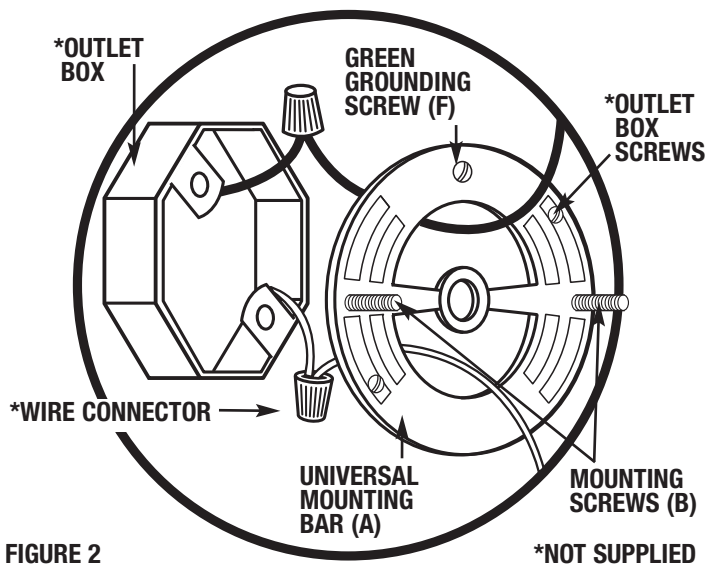

FIGURE 2
GROUNDING INSTRUCTIONS: The green grounding screw (F) is to be inserted into the hole with two raised dimples provided on the universal mounting bar (A). Wrap the ground wire from the fixture (if supplied) and the ground wire from the outlet box (bare metal or green insulated wire) around the green grounding screw (F) on the universal mounting bar (A) if uninsulated ground wire is on the universal mounting bar (A), connect the ground wire from the fixture (if supplied) and the outlet box to it using a small wire connector (not supplied) (See Figure 2).